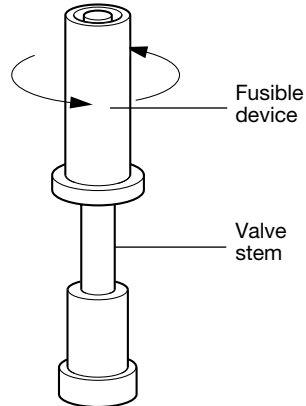

Fig. 8
- The fuse may now be unscrewed from the valve stem and the new one fitted (see Figure 8). Alternatively the existing fuse may be reset after dismantling as above, by immersing it in hot water at a temperature above its fusing point 80°C (176°F) on the standard fuse. When the fuse solder head reaches a fluid state the two cylinders can be pushed together until the ends are flush. Allow to cool and refit.